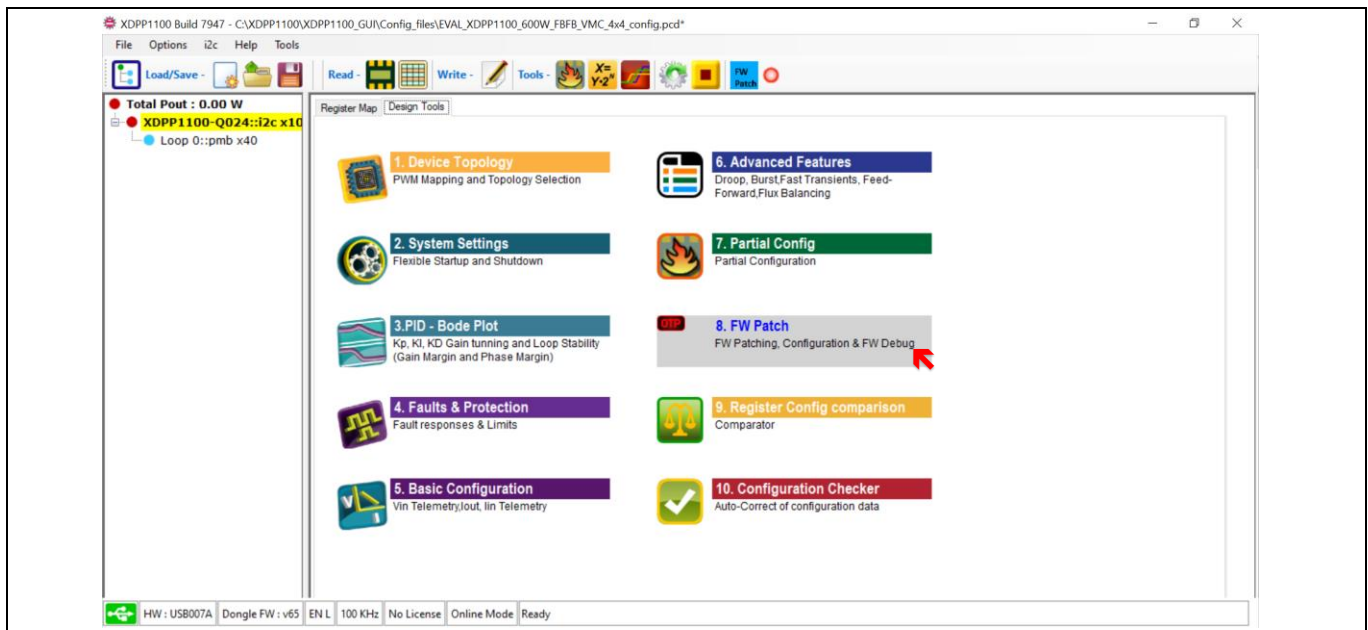

Figure 56 FW patch (FW patching, configuration and FW debug)
- Click on **XDPP1100-Q024::i2c x10** (highlighted in yellow in Figure 56).